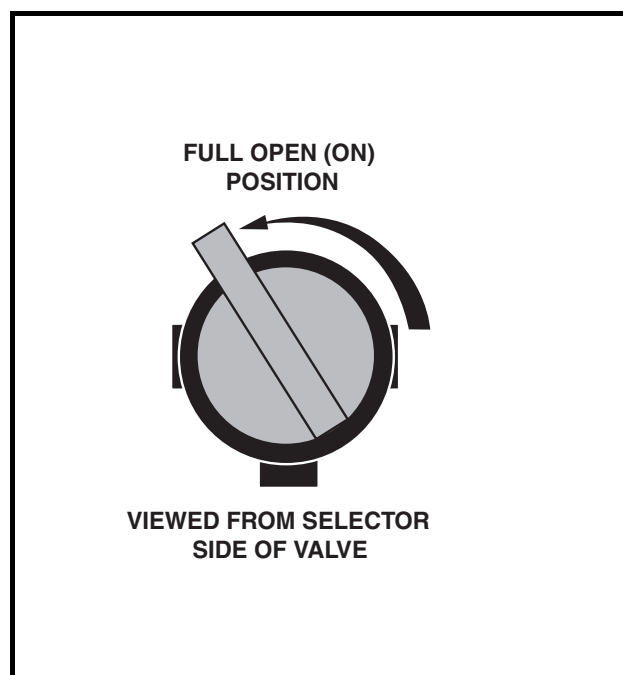
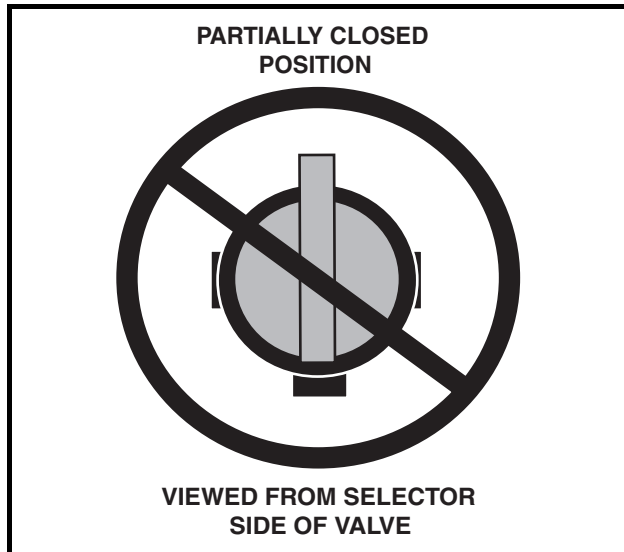

Figure 12 Fuel Shut-off Valve – Open Position
Figure 13 Incorrect Fuel Shut-off Valve Setting
3. Completely open the fuel shut-off valve (**Figure 12, Page 24**). Make sure the valve is fully open. A partially closed fuel shut-off valve (**Figure 13, Page 25**) combined with the use of the choke can result in a fouled spark plug and engine failure.